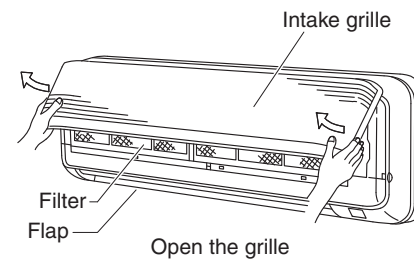

Fig. 3-159
- (1) Lift up on both sides of the air-intake grille to open it. (Fig. 3-159)
- (2) Remove the filter. (Fig. 3-159)